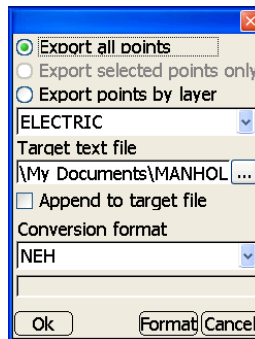

Figure 3-18. Select Conversion Format
- On the **export** dialog box, select a conversion format from the drop-down list (Figure 3-18). If no conversion formats are listed or you need a new format, see “Creating Conversion Formats” on page 3-3 for more information.